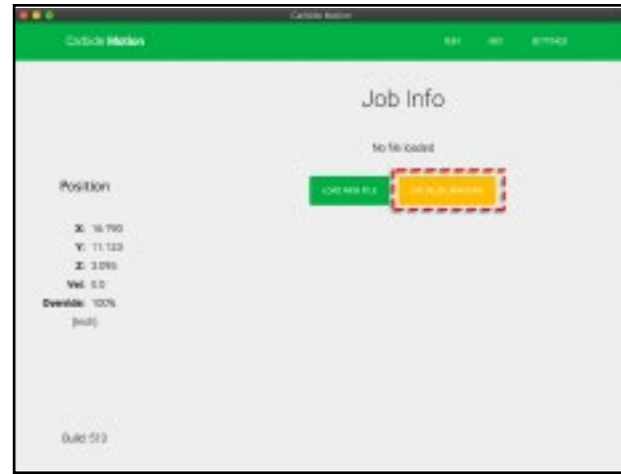

Figure 13-4
- Click the yellow **Initialize Machine** button. See **Figure 13-4**. This activates the homing sequence and your machine will do the following: